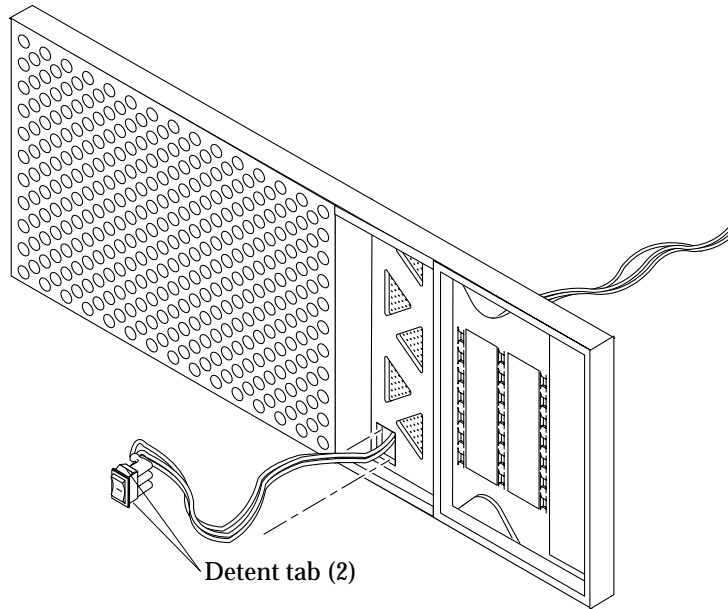

FIGURE 8-20 Removing and Replacing the Front Panel DC Switch Assembly
12. Remove the DC switch assembly from the front panel (FIGURE 8-20):
1. Replace the DC switch assembly through the front of the front panel (FIGURE 8-20):